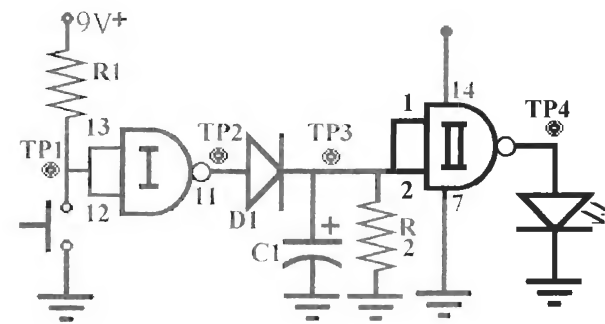

Figure L20-9
2. Connect the LED as shown in Figure L20-9.